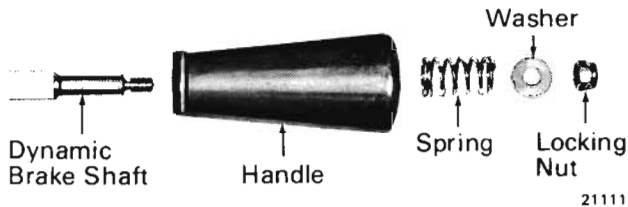

Fig.23 - Dynamic Brake Handle Assembly
38. Install handle spring over shaft and apply flat washer and 5/16"-24 self locking nut to secure handle to shaft, Fig. 23. Tighten until washer bottoms out on shaft shoulder.